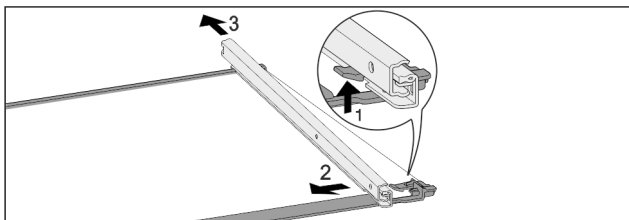

Fig. 69 Glass shelf with rails
- ▶ Push up front click-in hooks. Fig. 69 (1)
- ▶ Move the pull-out rails to the side Fig. 69 (2) and to the rear Fig. 69 (3).